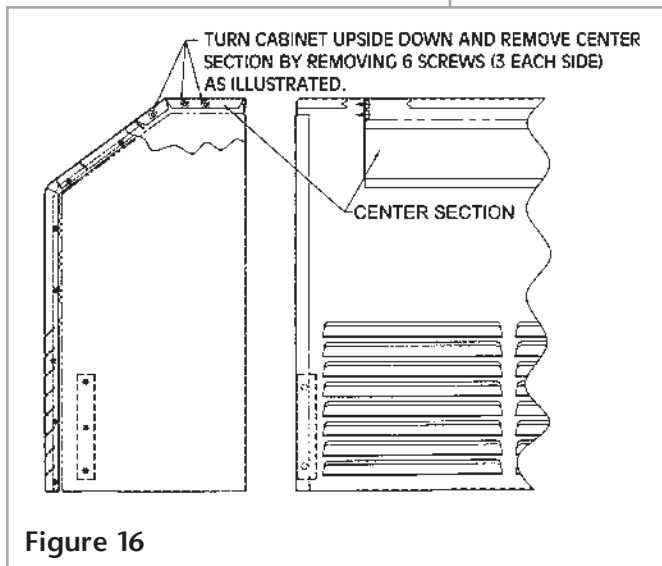
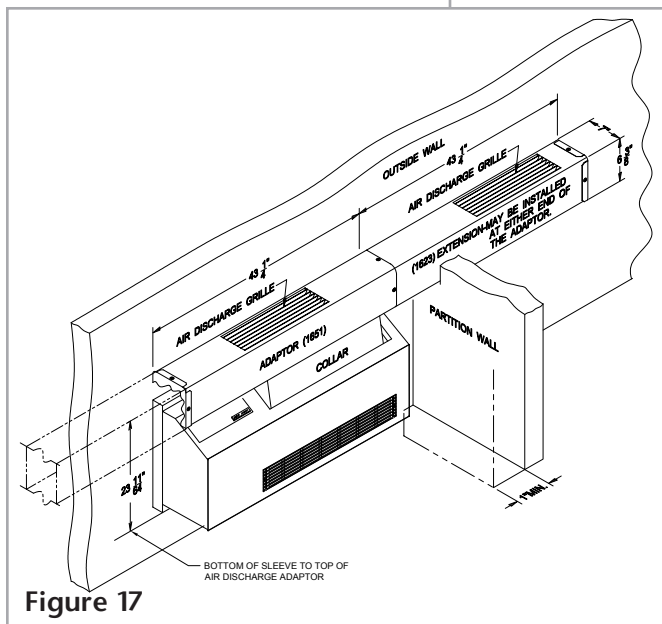

Figure 16
Figure 17
2. Slide collar into position under the adaptor and secure with the two (2) screws provided. (See Figure 17.)
3. If the required air flow direction is to the left, remove the end cap and three (3) tinnermans from the left end of the adaptor. Reinstall end cap and tinnermans to the right end of the adaptor.
4. Remove the center section from the cabinet front assembly. (See Figure 16.) **If the center section is not removed, you will be unable to open the cabinet front once the collar and adaptor are installed. Discard center section.**
5. Remove the discharge air grille from the unit. **Retain the two (2) screws.**
8. Remove adaptor and collar assembly from unit. At the two (2) locations marked on the adaptor in Step #7, drill a 7/64"-diameter hole (2 places).
9. Install adaptor and collar assembly on unit as illustrated and secure with the two (2) screws retained in Step #5. Also, secure the adaptor to the adaptor brackets with the screws provided.
3. Slide collar into position under the adaptor and secure with the two screws provided. (See **Figure 17**.)
5. Remove the center section from the cabinet front assembly. (See **Figure 16**.) **If the center section is not removed, you will be unable to open the cabinet front once the collar and adaptor are installed. Discard center section.**
6. Remove the discharge grille from the unit. **Retain the two (2) screws.**
10. Install adaptor and collar assembly on unit as illustrated and secure with the two (2) screws retained in **Step #6**. Also, secure the adaptor to the adaptor brackets with the screws provided.